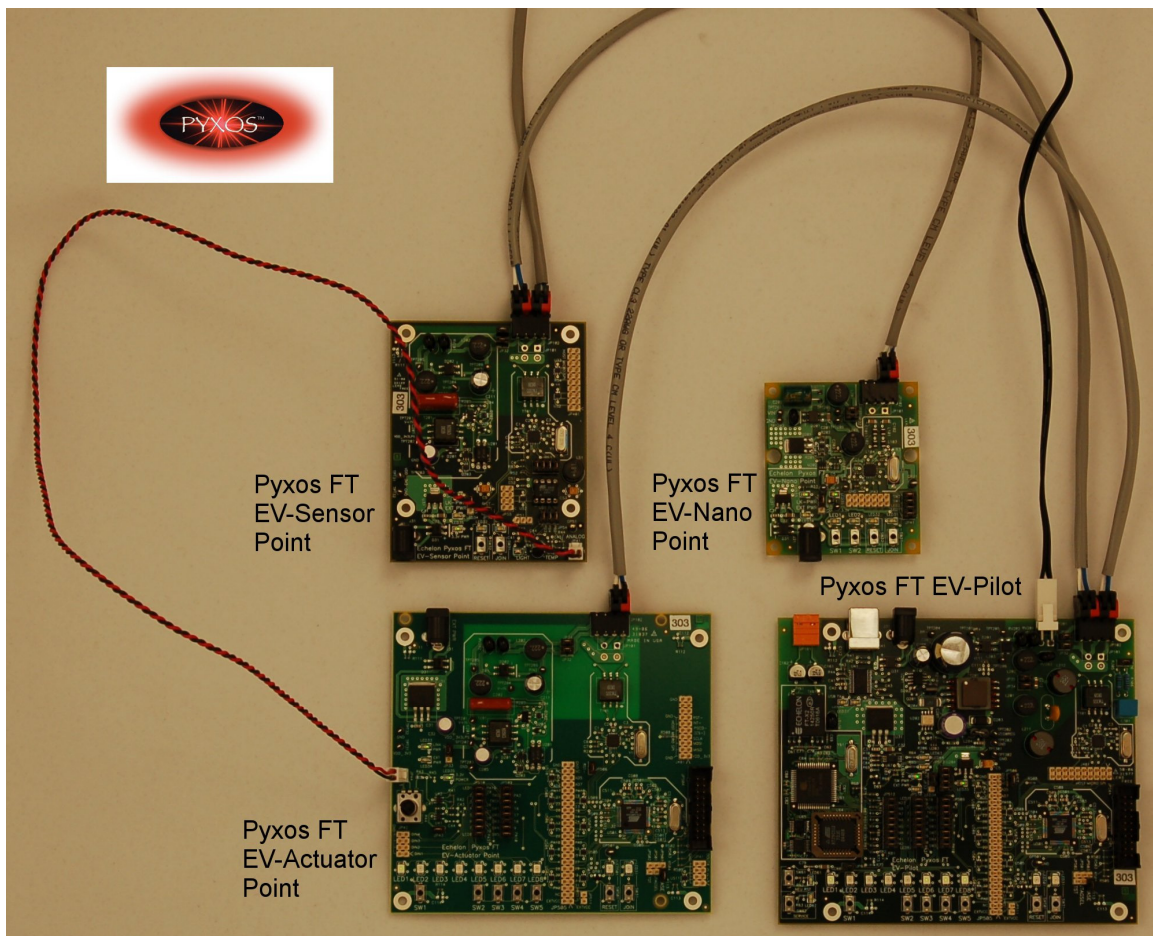

Figure 4. Pyxos FT EVK Evaluation Boards
Figure 4 shows the four Pyxos FT evaluation boards, as they appear when assembled. For more information about each of the Evaluation Boards, see Chapter 3, *Pyxos FT EVK Hardware Details*, on page 17.
1. Connect the Pyxos FT EVK power supply adapter to the EV Pilot evaluation board, as shown in **Figure 4**, and plug it in. The power LED on the EV Pilot evaluation board illuminates to show that it is running.
2. Connect the Pyxos FT EVK network cables to each of the four evaluation boards, as shown in **Figure 4**. These cables establish the Pyxos FT